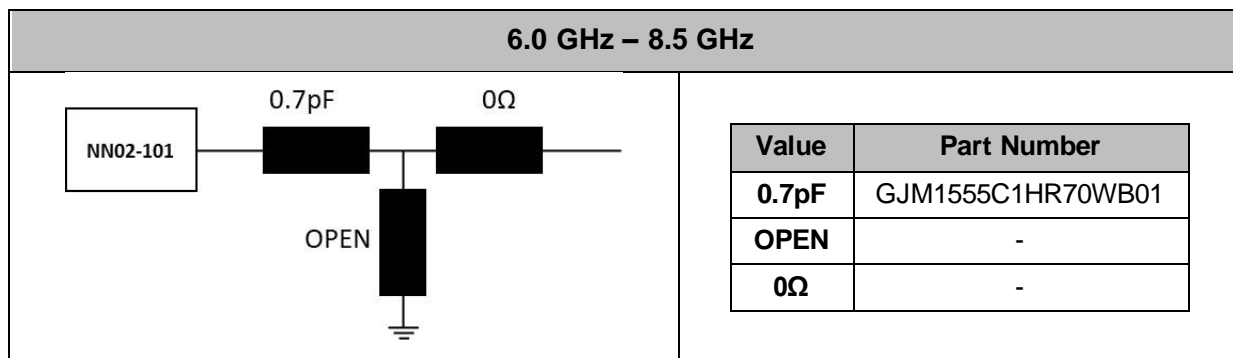

Figure 12 – Matching network implemented in the Evaluation Board (Figure 11) for covering the high-frequency region from 6.0 GHz to 8.5 GHz.
The antenna performance is **always conditioned by its operating environment**. Different devices with different printed circuit board sizes, components near the antenna, LCD's, batteries, covers, connectors, etc. may require retuning the matching network for best RF performance. Accordingly, it is highly recommended placing pads compatible with 0402 and 0603 SMD components for a matching network as close as possible to the feeding point of the antenna element in the ground plane area, not in the clearance area. This provides a degree of freedom to tune the NANO mXTEND™ antenna component once the design is finished and considering all elements of the system (batteries, displays, covers, etc.). To ensure optimal results, the use of high-quality factor (Q) and tight tolerance components in the matching network is highly recommended (e.g. Murata components (Figure 12)).
Figure 13 - VSWR and Total Efficiency for the UWB High Frequency Response (6.0GHz – 8.5GHz) from the Evaluation Board (Figure 11) with the matching networks in Figure 12.
Table 4 – Antenna Gain and Total Efficiency from the Evaluation Board (Figure 11) for 6.0GHz – 8.5GHz band considering the matching network in Figure 12.